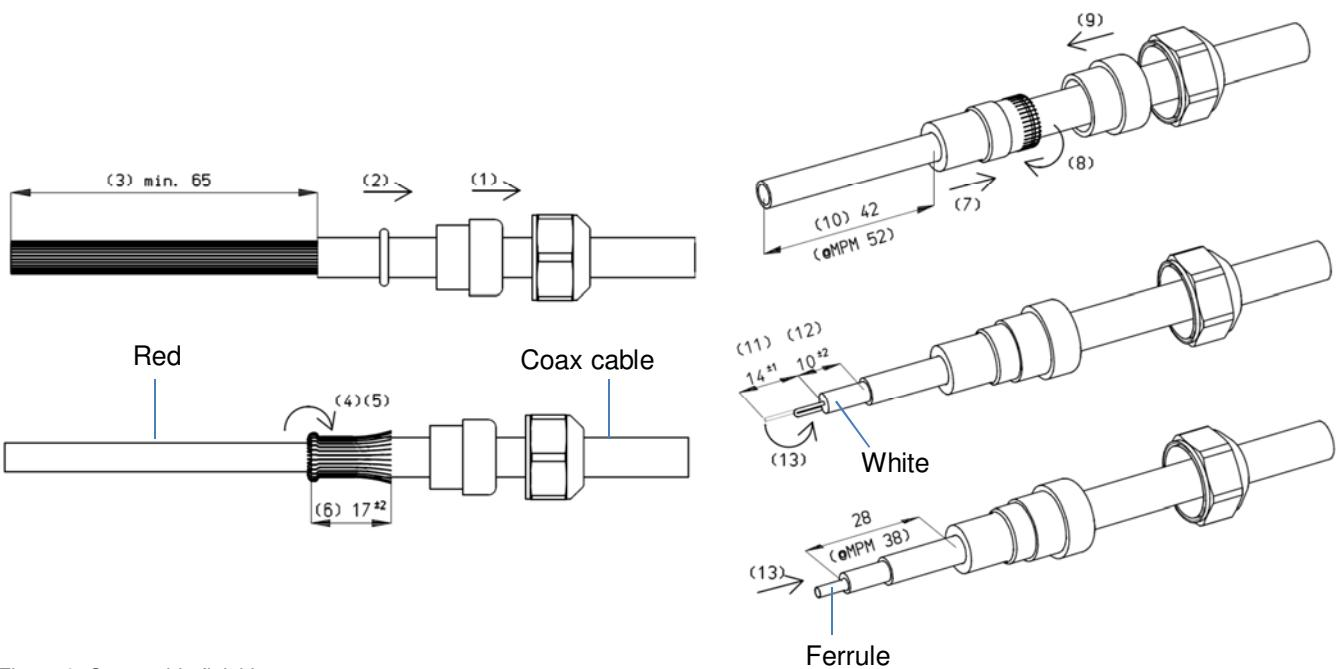

Figure 6: Coax cable finishing
- When using a coax cable, check whether the cable length from the PVC socket is 38 mm; see Figure 6. If not correct, adjust. See also the manual for ionisation equipment.
Shielded coax cable must be finished as shown in Figure 6.